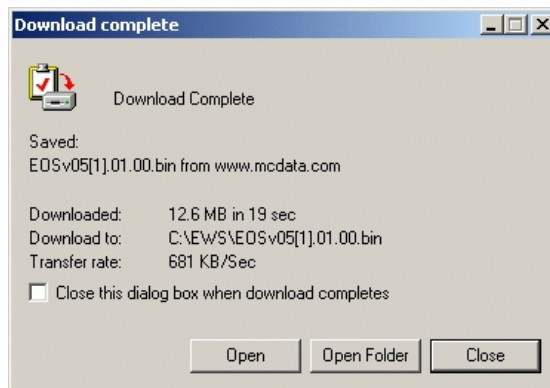

Figure 4-17 Download Complete Dialog Box
7. A *Download* dialog box displays, showing the estimated time remaining to complete the download process. When the process finishes, the dialog box changes to a *Download complete* dialog box (Figure 4-17).